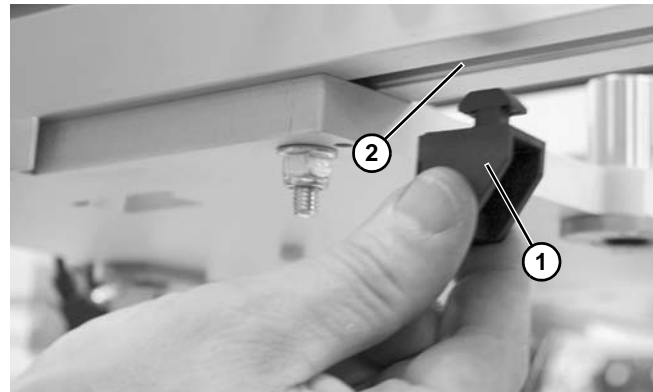

**Figure 29**
1. Raise lift and transfer station (**Figure 29, item 1**) into position from under the conveyor, lining up T-nuts with conveyor channel.
2. Tighten bolts (**Figure 29, item 2**) to secure lift and transfer station to conveyor.